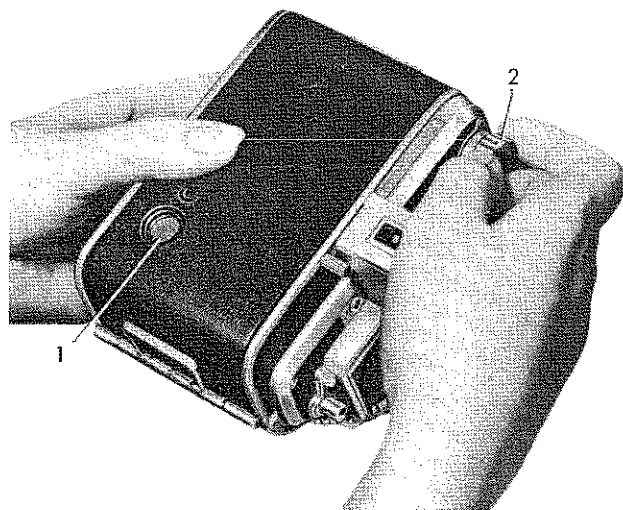
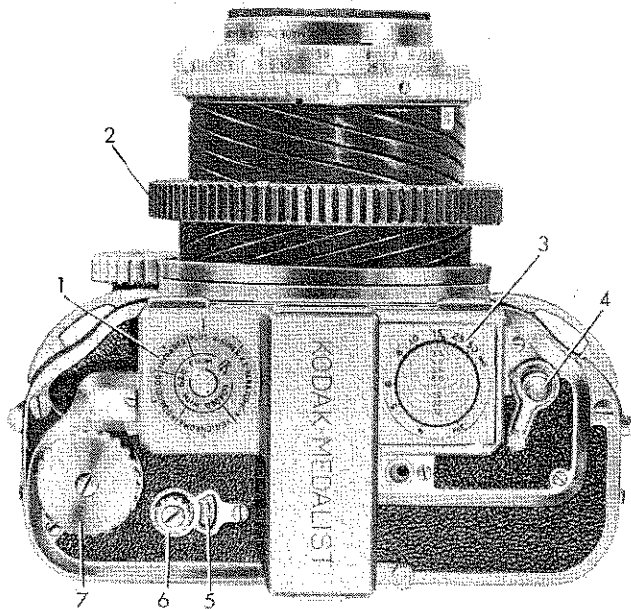

Figure 11—Winding Film
Figure 12—Kodak Medalist, Top View
(5) Turn the winding key knob (2, figure 11) once or twice to bind the paper on the spool. Be sure the paper is started straight. Close the back with a firm pressure until the hinge grips snap outward into place.
(1) Draw back the slide which covers the red film window (1, figure 11) on the back of the camera. This is a spring slide and must be held while the winding key knob (2, figure 11) is turned. Turn until a small hand appears in the film window. Continue turning slowly until the figure "1" appears at the edge of the window. Depress the counter knob (6, figure 12) and turn the counter dial (5, figure 12) until the figure "1" appears in the forward part of the window. Then give a slight turn to the winding key knob until it locks. The figure "1" on the protective paper will now show in the film window.
(2) If the film is inserted in the camera and the winding knob turned with the exposure counter on some figure other than "0", the winding mechanism will lock. The counter knob must then be depressed and turned until "8" appears in the forward half of the window. To release the winding mechanism the lens must be brought to picture-taking position (refer to paragraph 2.c., this section) and the trigger button (4, figure 12) pressed. Then proceed with winding the film as described above.
(3) The film indicator dial (1, figure 12) on the top of the camera should be set to show the kind of film with which the camera is loaded.
c. BRINGING THE LENS TO PICTURE-TAKING POSITION. (See figure 12.)—Turn the large focusing collar (2) on the focusing tube to bring the lens to a picture-taking position. This can be judged by the focusing scale (3) on the top of the camera. As the lens is brought forward, this scale automatically revolves and when ∞ (Infinity) comes to the index (and not before) the trigger button (4) can be depressed.